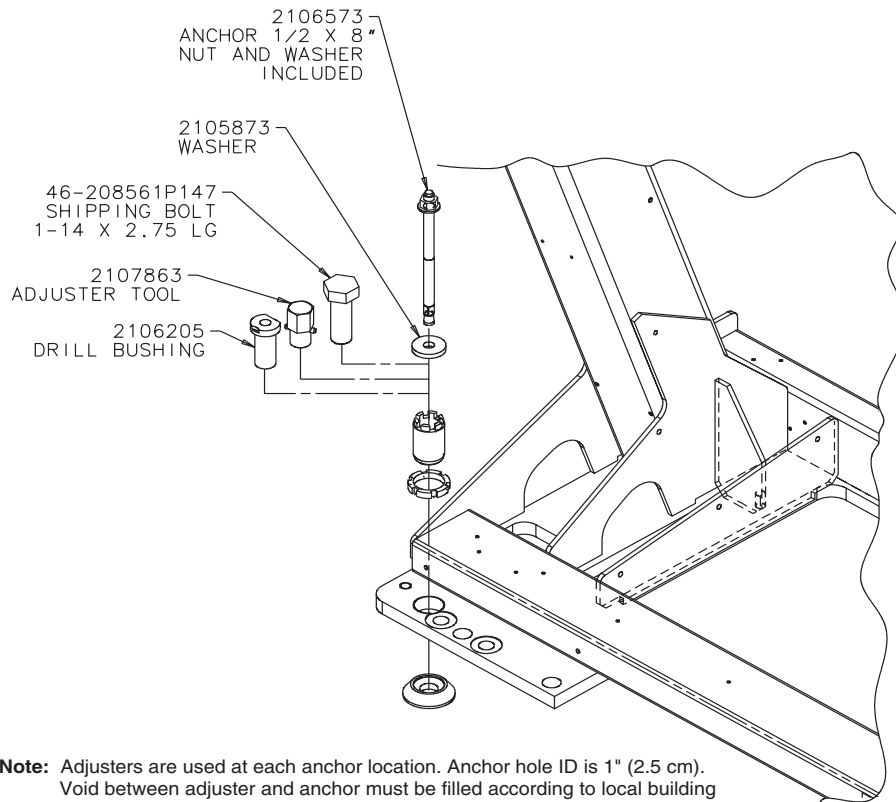

Figure 1-6 Table Base Installation Hardware
- Use the adjuster tool, 1 1/8" socket, and the 1/2" drive ratchet to turn each adjuster. (Refer to Figure 1-6, on page 30.)